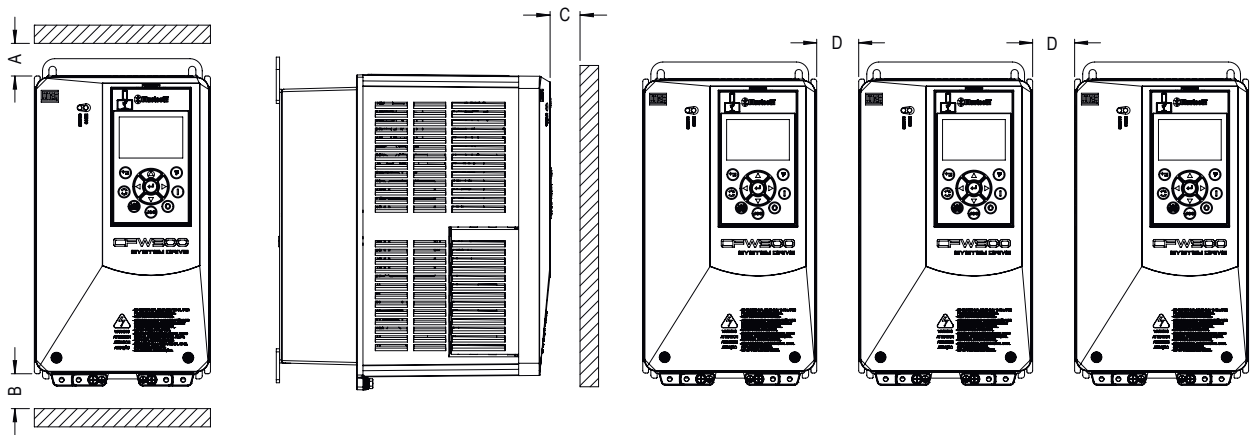

Figure 3.2: Free clearances for ventilation
Minimum mounting clearances requirements for proper cooling air circulation are specified in Figure 3.2 and Table 3.3.
- When one inverter is installed above another, use the minimum distance A + B, as shown in Figure 3.2, and divert the hot air blown by the lower inverter from the upper inverter.